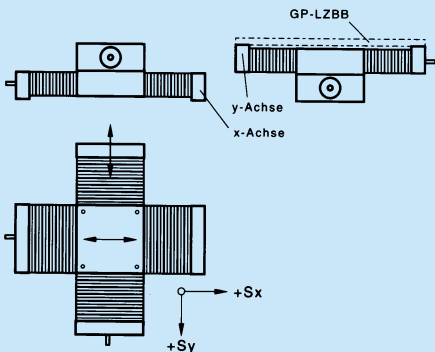

Fig. 5a
- **Assembly type KU** (Fig. 5a)